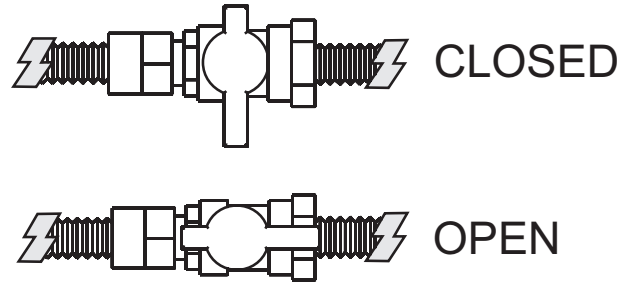

Figure 4
2. **Verify the main gas supply to the unit is on.** The shutoff valve should be in the "OPEN" position. See Figure 4.